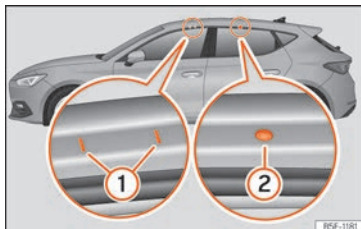

Fig. 142 Mounting points for the roof bars for the roof rack (Leon).
The front and rear attachment points ① and ② are only visible when the doors are open » **Fig. 142.**